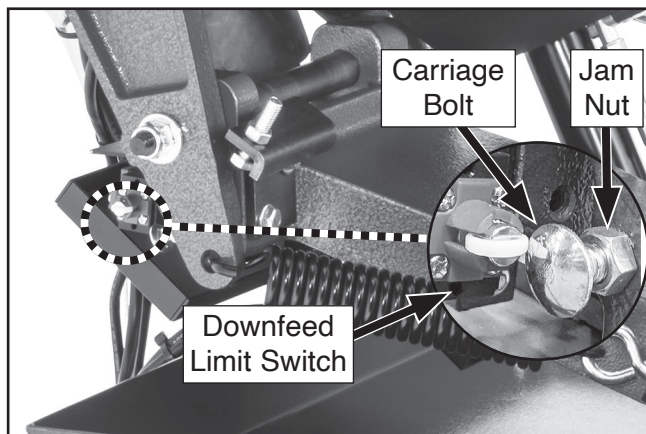

Figure 88. Downfeed limit switch components
7. Loosen jam nut and adjust carriage bolt until it presses against switch, then tighten jam nut to secure (see **Figure 88**).